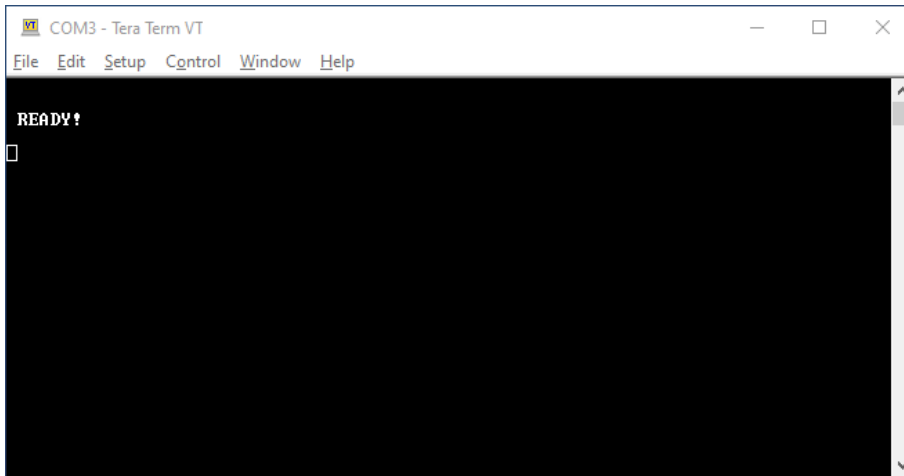

Figure 12. Console Screen – Ready for Software Image Download
- Press **Enter** to activate Image Download Mode. LED D3 starts blinking fast and **READY!** message is displayed on the console screen (Figure 12). The bootloader is now waiting to receive the image file by the USB serial interface. Each subsequent byte is interpreted as a part of the Image. Be careful not to press any other buttons or the process will be compromised and must be restarted.